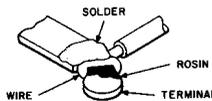

FIGURE 9. Example of Improperly Soldered Connections
7.05 Figure 9 illustrates an improperly soldered connection; the solder has sweated to the terminal only, while between the solder and the wire there is a layer of rosin which insulates the solder from the wire. A connection of this type is due to one of the following causes: